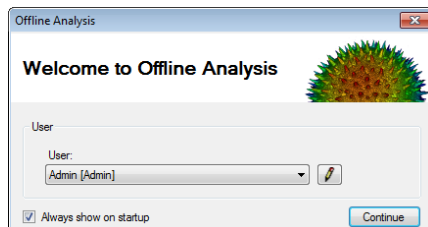

Figure 74: Welcome dialog of Offline Analysis
The *Welcome* dialog differs between Live Acquisition (LA) and Offline Analysis (OA) as in the latter one no hardware configuration controls are needed (Figure 74). If LA and OA are used on one computer, all user accounts are shared between the both programs. This means that if a new user is created in on of the applications it is automatically available in the other one, too.